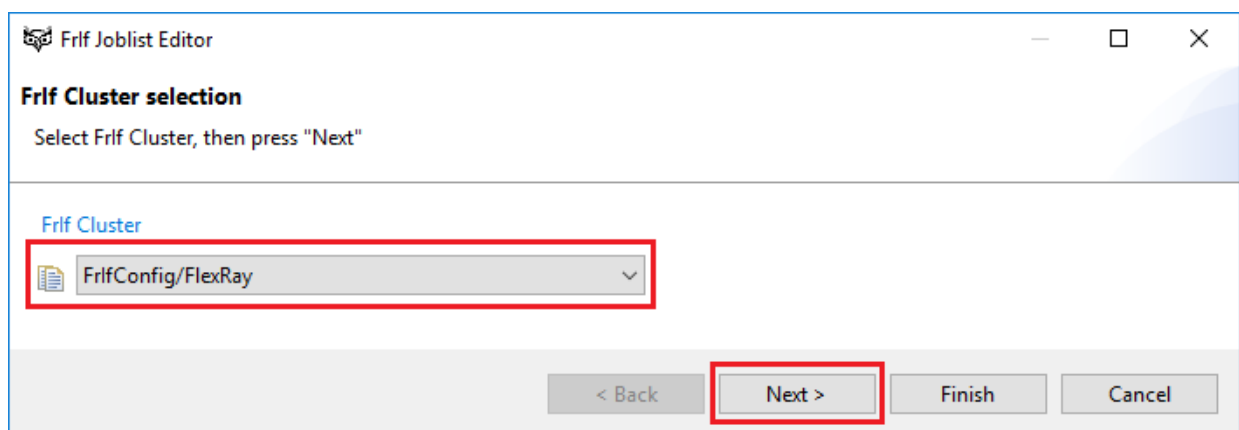

Figure 4.6. Select a FrIf Cluster
4. Select a **FrIf Cluster** and press the **Next** button as shown in Figure 4.6, "Select a FrIf Cluster".